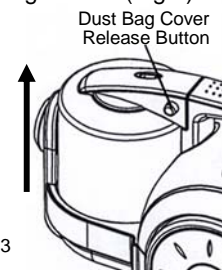

Fig. 3
1. To open the dust bag cover, remove the flexible hose and depress the dust bag cover release button. (Fig. 3)